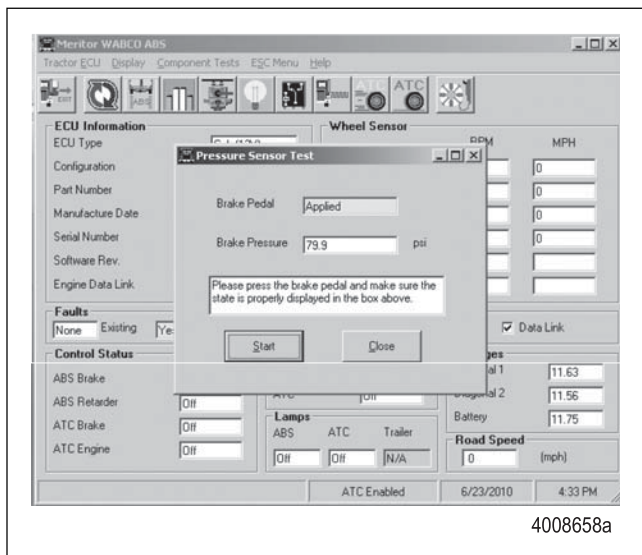

Figure 3.27
- Click Start test and ensure brake pedal position pressure is displayed in the corresponding boxes. Figure 3.27.